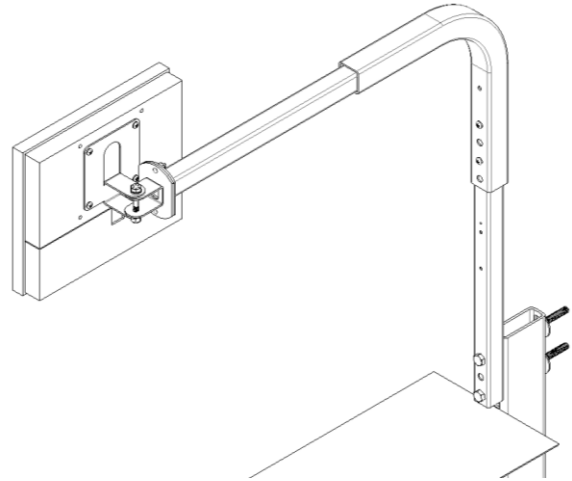

Fig. 8. Complete Install
- Complete Install. See Fig. 8.